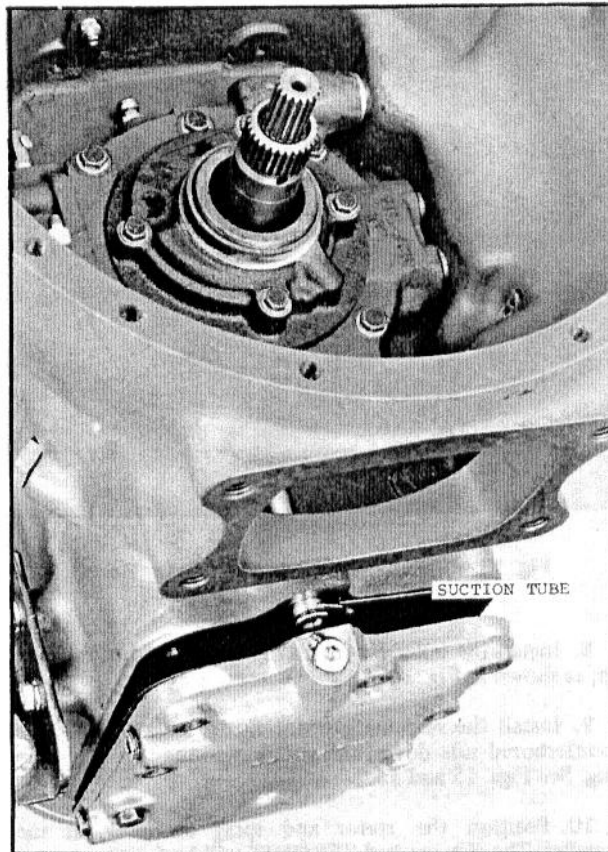

Fig. 19 - Removing Transmission Case Oil Sump
4. Remove the transmission case oil sump from the bottom of the transmission housing. See Fig. 19. Remove the oil suction tube from the bottom of the manifold.